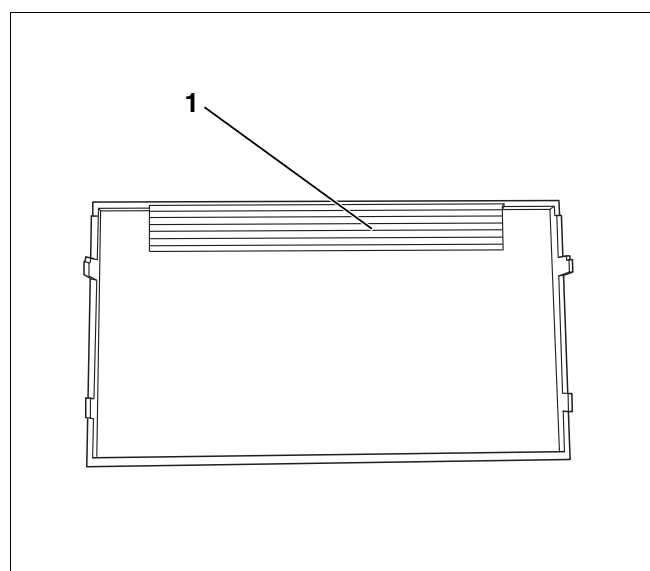

Fig. 8 Plastic window
The plastic window supplied (→ Fig. 8, page 9) is later pushed onto the control unit from below as sight protection. Where necessary, consider the height of this part during installation.
- In the area of the ribbing (→ Fig. 8, [1]), cut out the panel at the points where the cables enter the unit, using side cutters or similar.